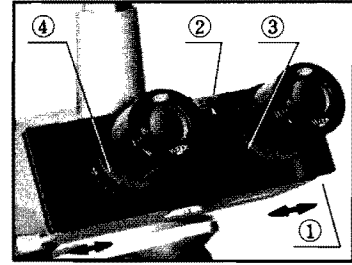

Fig. 5
3) Rotate the tube length adjustment ring ③ on the right eyepiece tube to match your interpupillary distance setting which you obtained from the scale. (Fig. 5)
5) Next, look at the image through the left eyepiece with your left eye and rotate the tube length adjustment ring ④ to focus on the specimen without using the coarse and fine adjustment knobs.